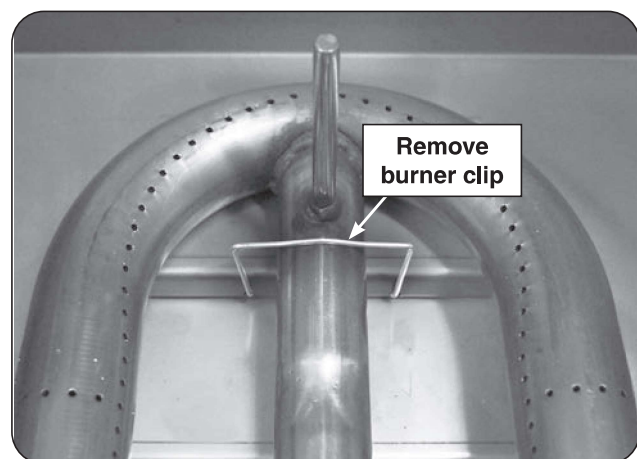

Fig. 34-2 Main burner removal
2. Locate the burner clip (located over the rear center tube of the burner) and slightly pinch and remove the clip from the burner support. See Fig. 34-2.